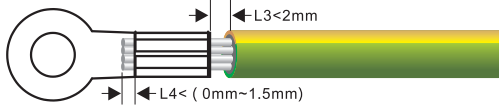

Figure 5.2 Crimping a cable (unit: mm)
Step 2 Insert the exposed core wires into the crimping areas of the OT terminal and crimp them using hydraulic pliers, as shown in Figure 5.2.